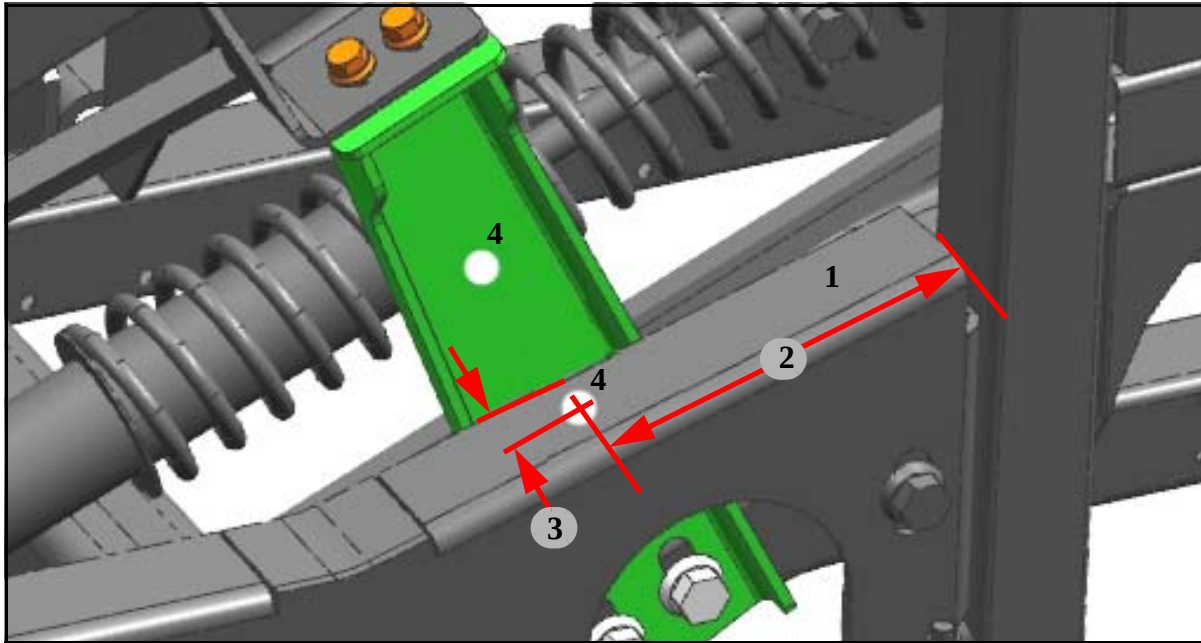

Figure 16. Idler pulley bracket angle drilled mounting hole dimensions.
31. Using a 17/32 inch drill bit and a drill, drill a mounting hole in the tie bar plate per the dimensions shown in Figure 16.
Item	Figure 16 Description